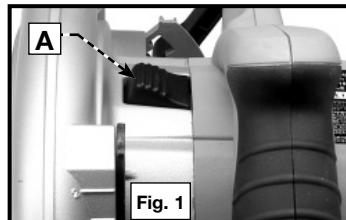
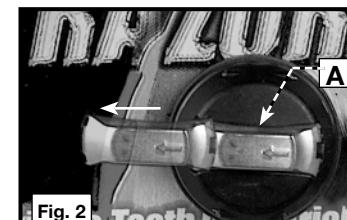

Fig. 1
Fig. 2
1. Push in the arbor lock button (A) Fig. 1 and rotate the blade by hand until the lock engages the blade arbor.
2. While pressing the arbor lock button, extend the lever on the Quik-Change blade clamp (A) Fig. 2 and turn it clockwise.
4. Replace the Quik-Change blade clamp (A) Fig. 2 finger tight by turning it counter-clockwise. Push in the arbor lock button (A) Fig. 1, extend the lever on the Quik-Change blade clamp (A) Fig. 2, and hand-tighten the assembly securely. Release the arbor lock.